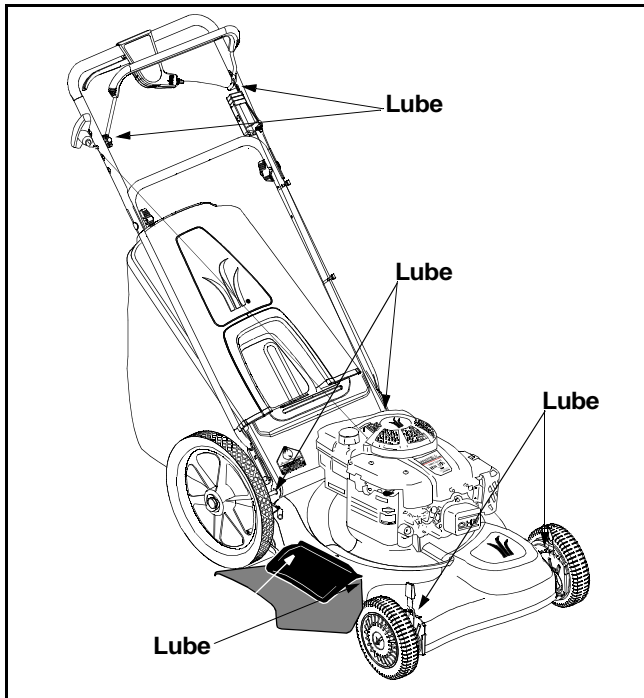

Figure 14
- Lubricate the pivot points on the blade control handle and the brake cable at least once a season with light oil. The blade control must operate freely in both directions. See Figure 14.
- The torsion springs and pivot points should be lubricated periodically with light oil to prevent any rust or binding. See Figure 14.